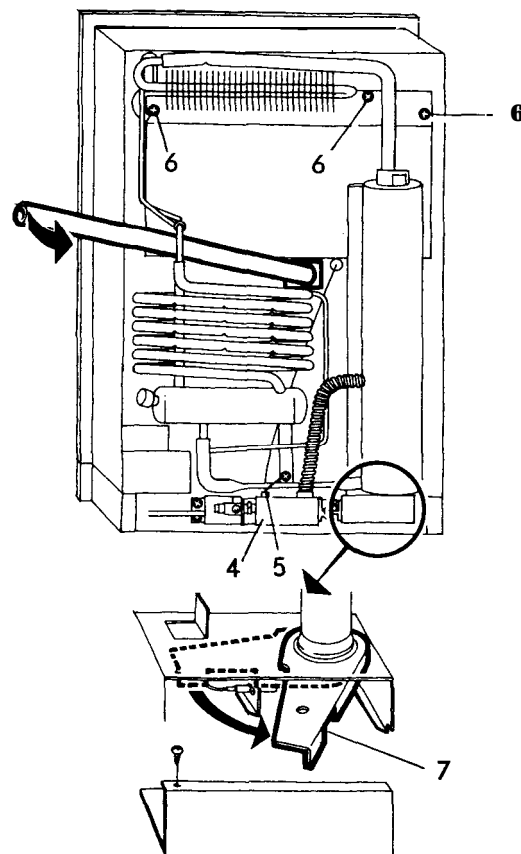

Fig. 15
6. Remove the connection block (4) cover (Fig. 15) and disconnect the electrical wires for the heaters.
7. Remove the grounding screw (5).(Fig. 15).
9. Remove the screws (6), holding the absorption unit onto the back of the cabinet.
10. Disconnect the burner case by turning the lever (7) as shown in the picture.